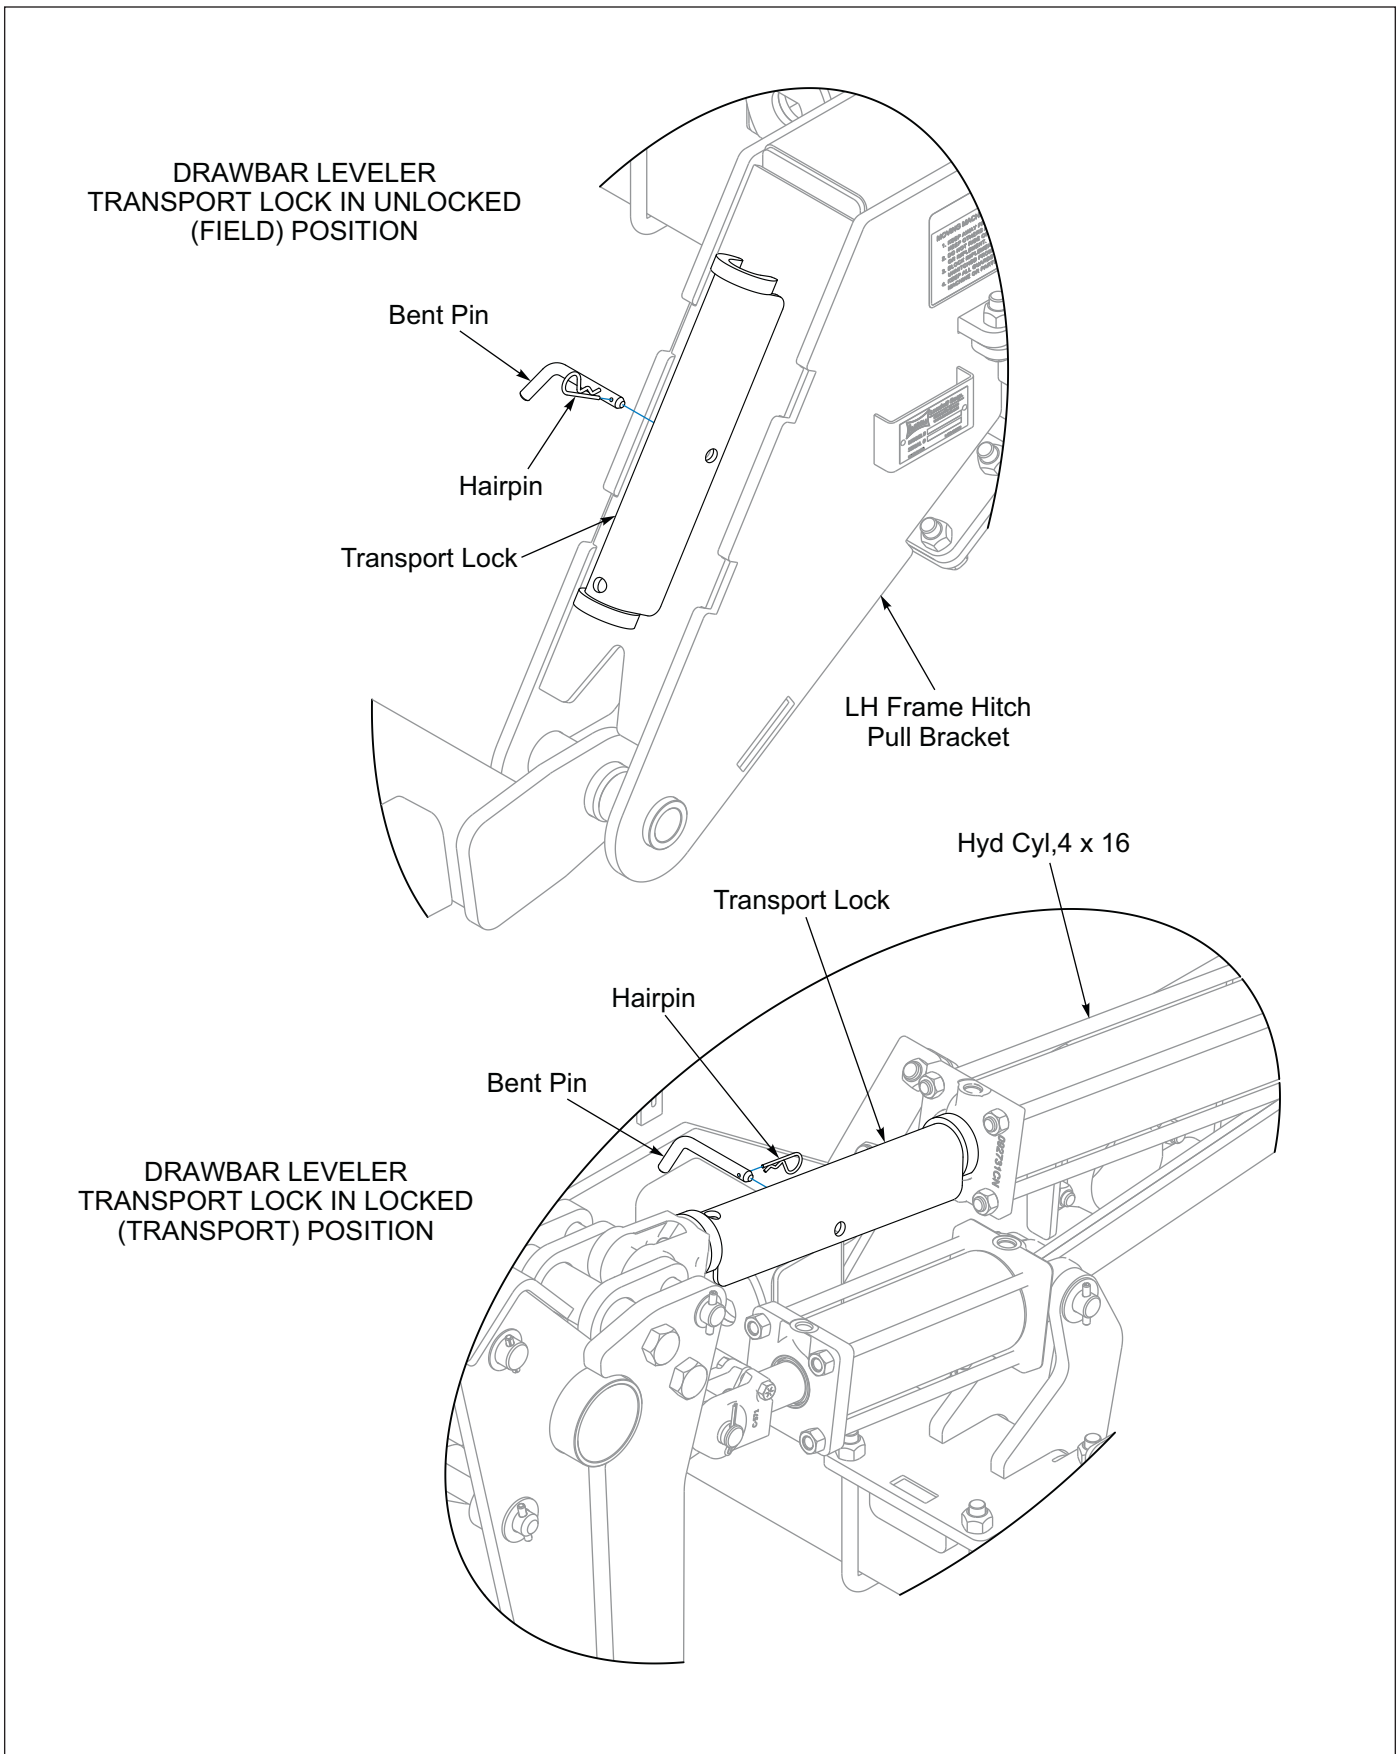
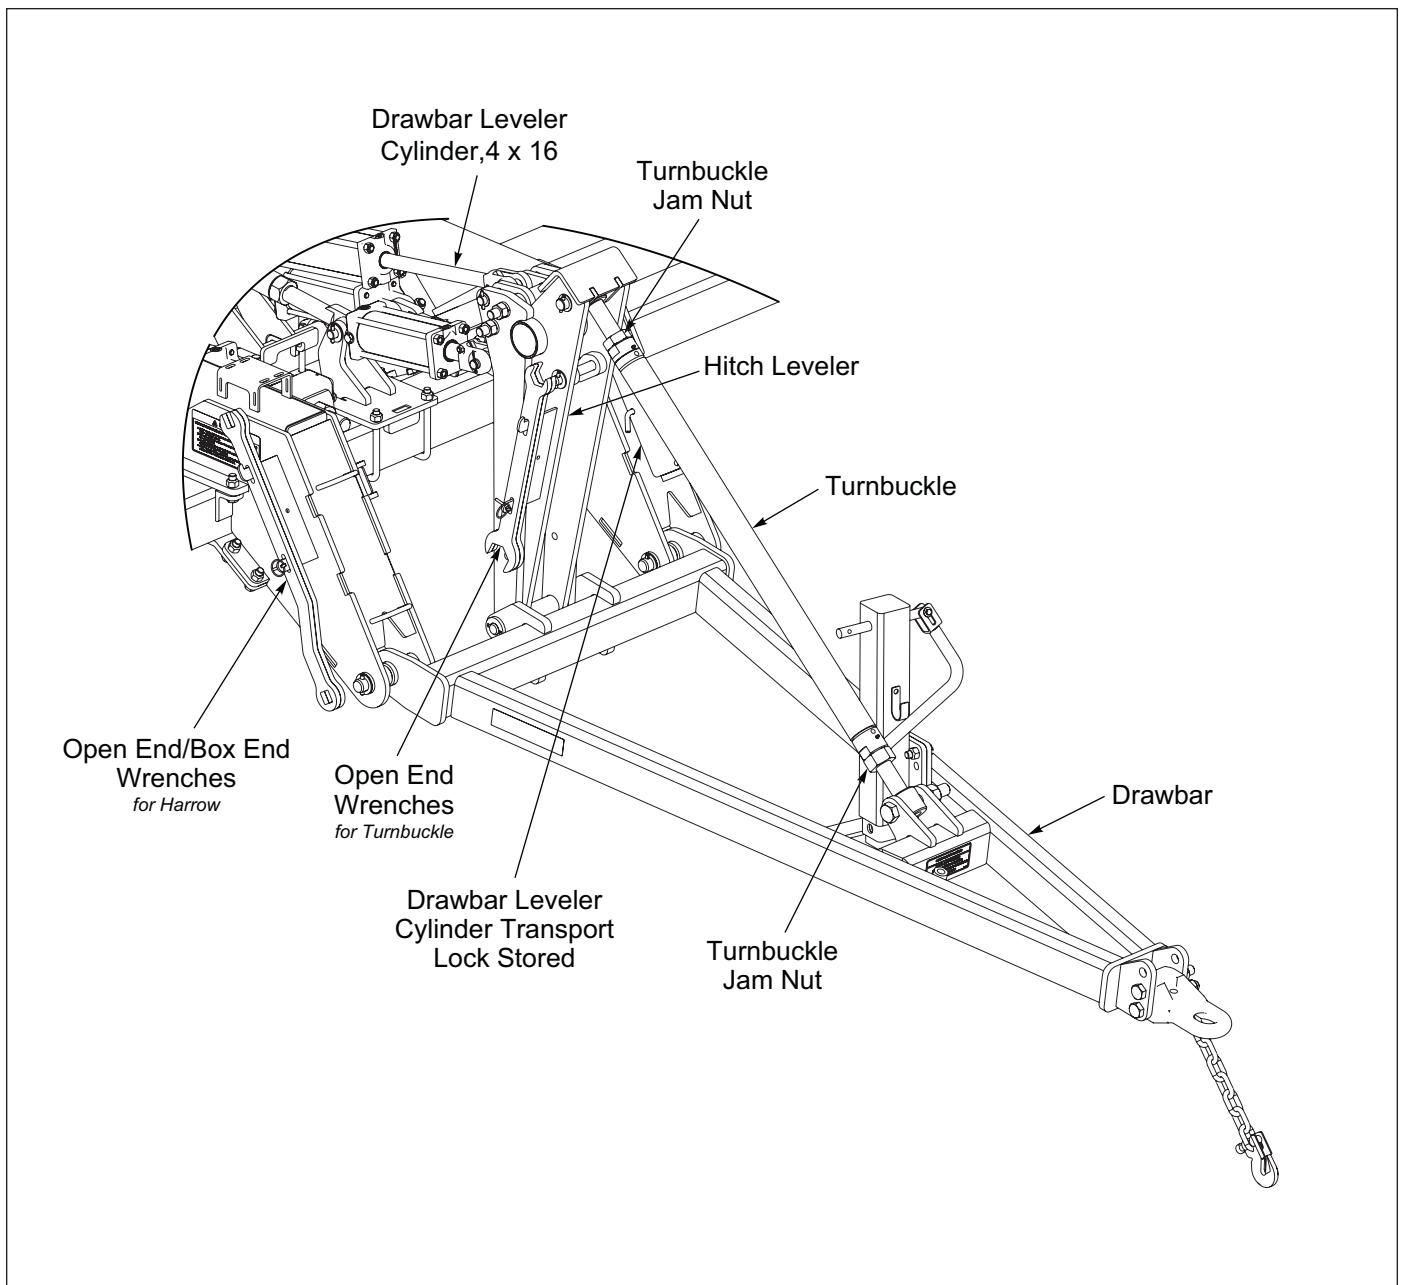

Figure 3-6: Drawbar Leveler Lock Positions
Figure 3-7: Drawbar Turnbuckle Adjustment
4. Fully extend the hydraulic lift wheel cylinders and place the cylinder lockouts in the transport lock position over the cylinder rods. Secure the lockouts with the lockout pins. **See page 3-6 and 3-7.** Install Transport Lock over Leveling Cylinder. **See Figure 3-6.**
5. To relieve pressure put circuit in float and machine should remain raised. Be sure to use Transport Locks. **See Figures 3-6 and 3-7.**
5. Remove Hitch Leveler Transport Lock, Bent Pin and Hairpin from Hitch Leveler Cylinder and store it on Hitch Leveler Mast Tab. Install Bent Pin and Hairpin. **See Figure 3-6.**
4. Remove Hitch Leveler Transport Lock, Bent Pin and Hairpin from Hitch Leveler Mast Tab and place Transport Lock over the Hitch Leveler Cylinder Rod. Install Bent Pin and Hairpin. **See Figure 3-6.**
The Pulvi-Mulcher drawbar is designed to float in Field Position and lock into a set position in transport. Depending on tractor hitch height, the Turnbuckle may need to be adjusted to level machine front to rear in transport. Use the open end wrenches located on the Hitch Leveler. **See Figure 3-7.** Machine may need to be lowered to make adjustment. Remove all Transport Locks before lowering and ensure shanks are raised. **See Figures 3-6 and 3-7.**